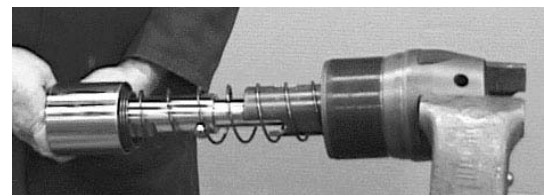

Figure 9-15. Slide Valve Stem and Spring into End Cap and Valve Guide.
3. Refer to Figure 9-15, and guide the Spring (11) and Valve Stem (10) into the threaded end of the End Cap (15), and into the Valve Guide (12).